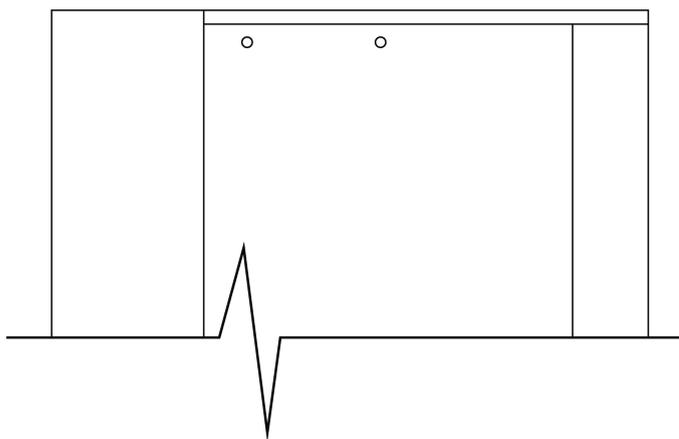
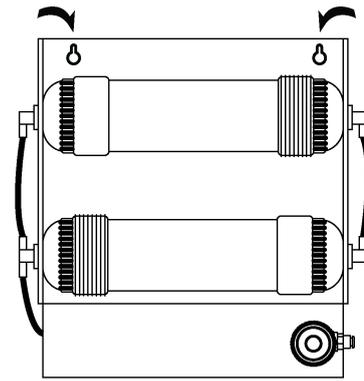

Fig 1. Water Filter Screws
Fig 2. Water Filter Key Holes
- On the back of the cabinet are two protruding screws (Fig 1) that match two key holes on the top of the filter housing (Fig 2). Fit and hang the filter pack from the protruding screws (do not tighten the screws after fitting). These are located below the electrical box on the 360 and 520 cabinets with the 1100 cabinet having them at the top.
- On the back of the cabinet are two protruding screws (Fig 1) that match two key holes on the top of the filter housing (Fig 2). Fit and hang the filter pack from the protruding screws (do not tighten the screws after fitting).